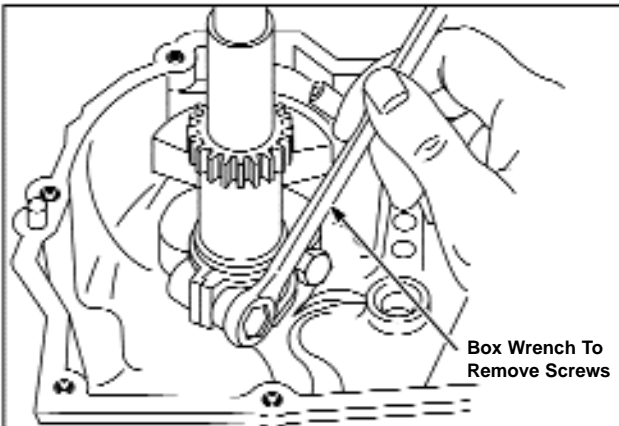

Figure 109 - Remove Piston and Connecting Rod, Typical
1. Remove connecting rod cap. See Figure 109.